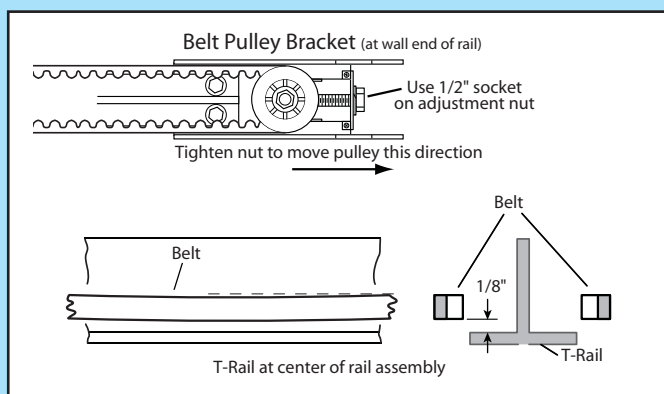

FIG. 1-7 Belt adjustment.
2. Tighten the belt by turning the adjustment nut clockwise. The belt adjustment nut is located in the Belt Pulley Bracket (opposite rail end from the power head) (Fig. 1-7).
3. Tighten belt until belt is approximately 1/8 inch above the base of the rail at midpoint on the rail (Fig. 1-7). Do NOT over tighten belt.